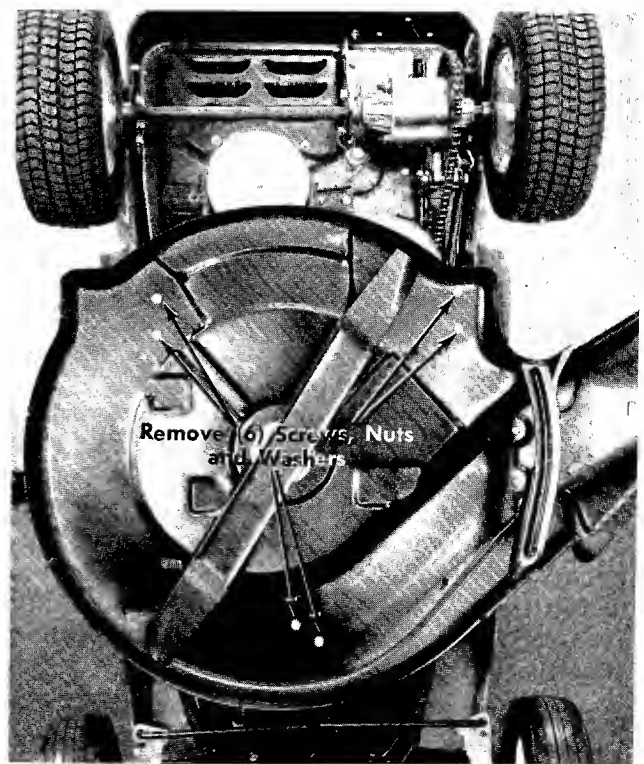

FIGURE 19. DECK REMOVAL
Step 3. Remove six hex screws, nuts and lockwashers holding the deck. See figure 19.